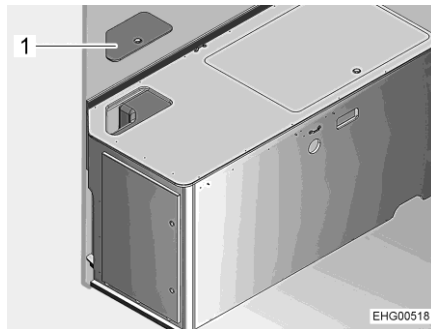

Fig. 139 Bedding box on the left
- Remove the service cover (Fig. 139,1).